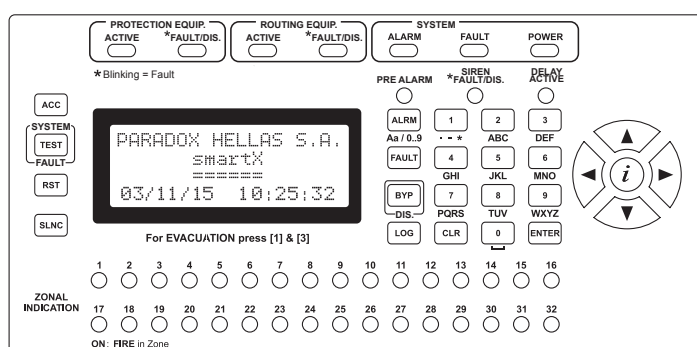

Figure 9. SmartX keypad
Each keypad (Figure 9) has several buttons with some having different functions depending on the system's state.
- **T9 entry mode:** Each key has a set of characters (4 or 5) that are selected by promptly pressing the same key as many times needed. The characters allocated to each key are printed below them on the keypad mask (Figure 9). This mode is very popular with cellular phones and used for SMS text messaging.